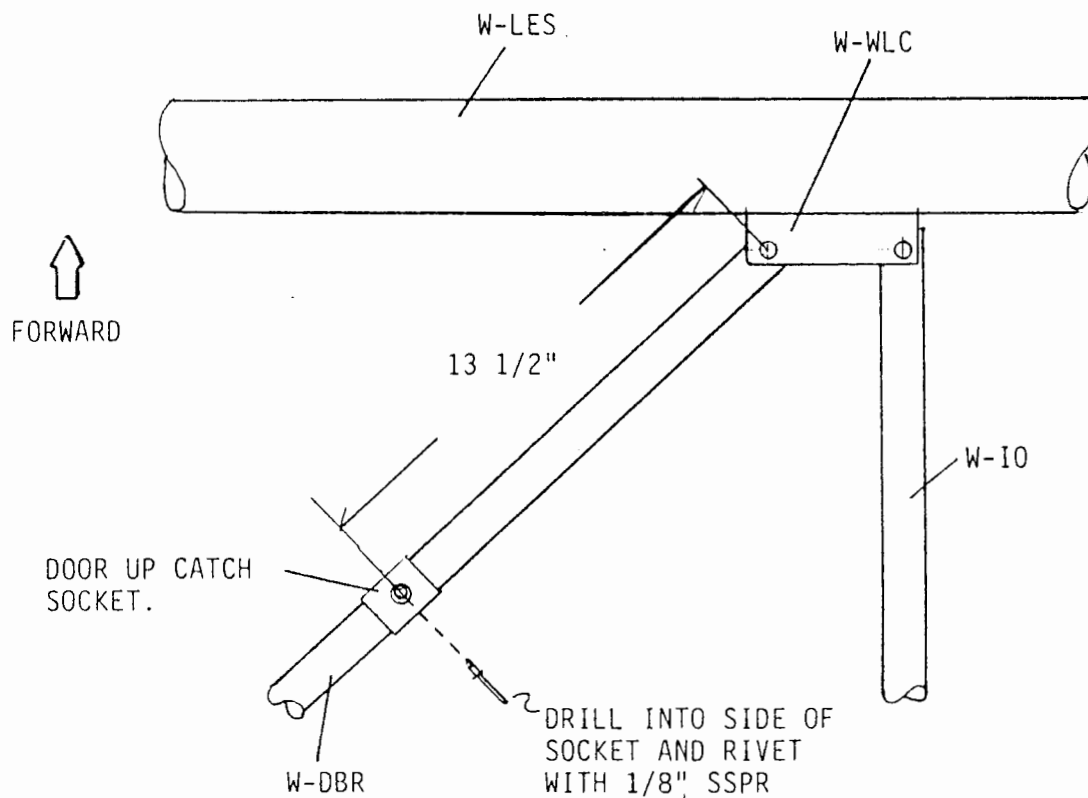

FIGURE 024-014
14. Install the drag braces. NOTE: Install the W-DBR at root with double notched end to trailing edge spar. Slip the door up catch\* on prior to bolting in place. This up catch should be located 13 1/2" from the W-DBR's 3/16" bolt center to the center of the up catch. See Figure 024-014. \*See door parts drawing for part I.D. and number.